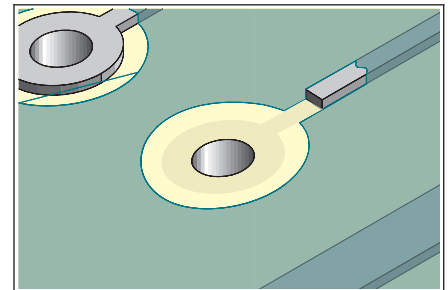

Figure 1 Remove the defective land and solder resist from the conductor.
2. Remove the defective land and a short length of the connecting conductor if any. (See Figure 1.)
4. Scrape off any solder resist or coating from the connecting conductor. (See Figure 1.)